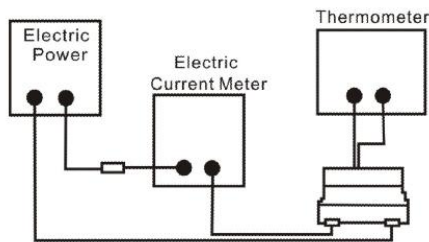

Fig.5.3.3-1
- Definition of Temperature rise current: DC current that causes the temperature rise ($\Delta T = 40^{\circ}\text{C}$) from 20°C ambient (see Fig. 5.3.3-2).